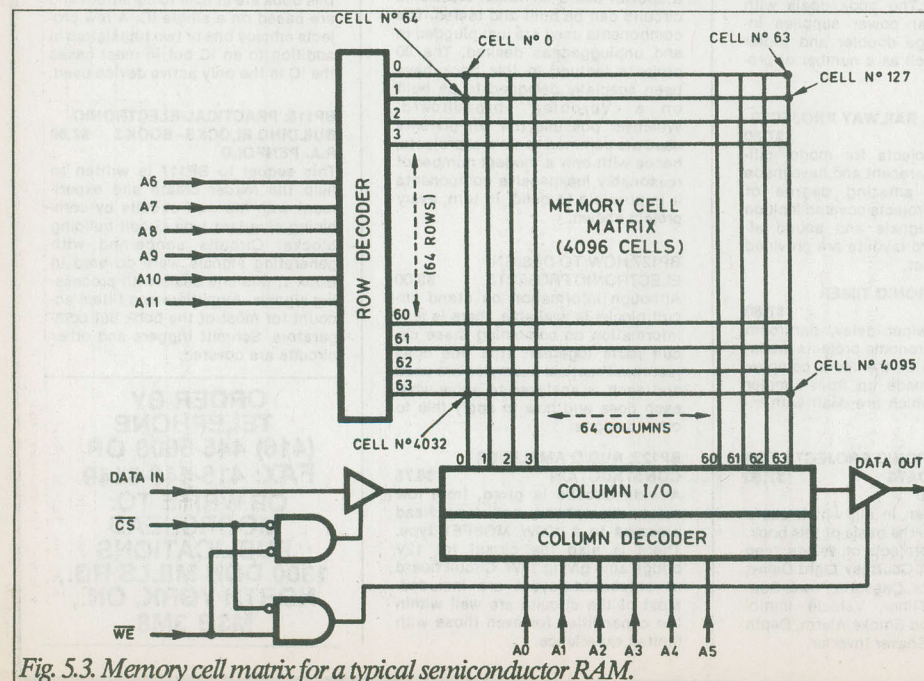

Fig. 5.3. Memory cell matrix for a typical semiconductor RAM.
Each location within a semiconductor memory, whether it be ROM or RAM, comprises a "cell" at which a single bit of data (either a 1 or a 0) is stored. The memory cell matrix for a semiconductor RAM is shown in Fig. 5.3. The matrix comprises 64 rows and 64 columns and thus has a total of  $(64 \times 64) = 4096$  individual cells.
Fig. 5.3 also shows how data is transferred into and out of the memory cell matrix (by means of the column I/O and how the active-low chips select (CS) and write enable (WE) lines are connected.